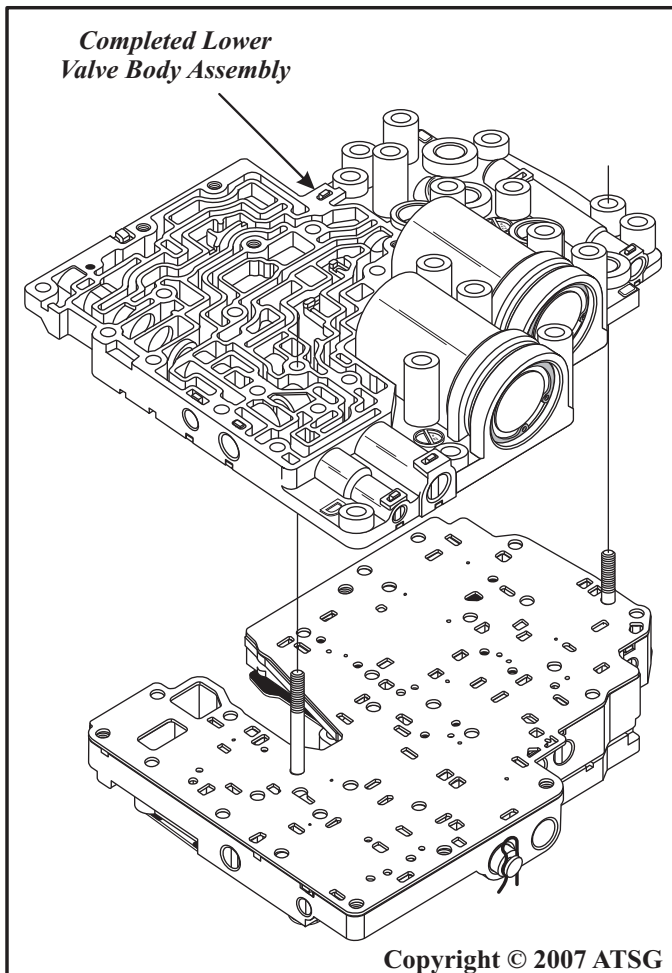

Figure 105
39. Install completed lower valve body assembly over the two bolts, on top of spacer plate "B", as shown in Figure 105.